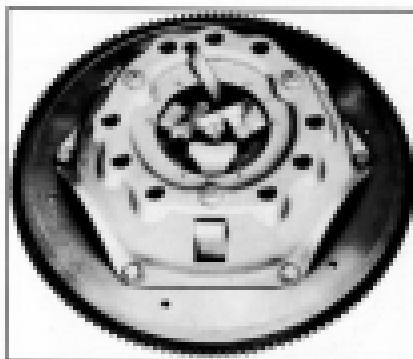

Fig. 437. Setting Levers with Gauge Plate Tool J-1848
- After the cover has been mounted, a short straight edge or scale (approximately three inches long) can be laid across the center hub and the bearing surface of one lever. Then turn adjusting nut on each lever until all levers are in the same plane within .005". (See Fig. 437)